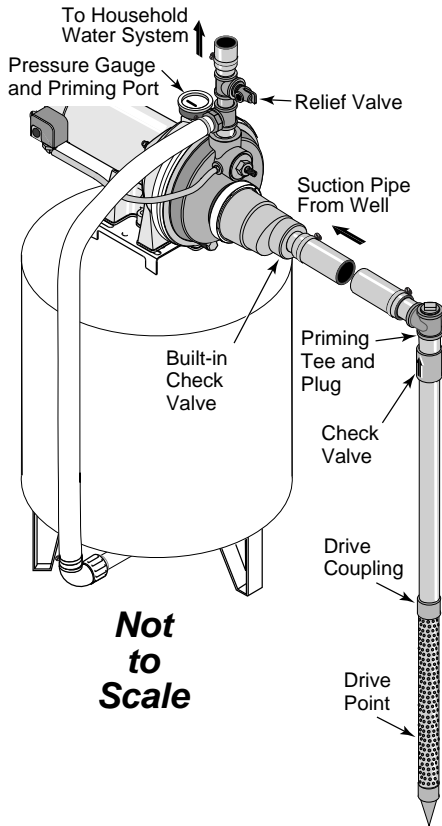

Figure 5: Driven Point Installation
Well Point Installation (Figure 5)
5. Use the fewest possible fittings (especially elbows) when connecting the pipe from the well point to the pump suction port. The suction pipe should be at least as large as the suction port on the pump (include a check valve – see Figure 5). Support the pipe so that there are no dips or sags in the pipe, so it doesn’t strain the pump body, and so that it slopes slightly upward from the well to the pump (high spots can cause air pockets which can air lock the pump). Seal the suction pipe joints with ¹Teflon™ tape or Teflon™ based pipe joint compound approved for use on PVC. Joints must be air- and water-tight. If the suction pipe can suck air, the pump cannot pull water from the well. If one well point does not supply enough water, consider connecting two or three well points to one suction pipe.